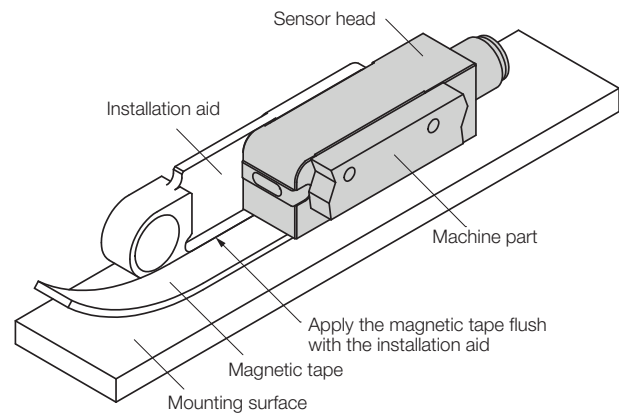

Fig. 4-2: Fastening installation aid BAM TO-ML-006-S1G (order code BAM0256) (left- or right-sided fastening is possible, figure shows right-sided fastening)
1. Fasten the installation aid (accessory) to the left or right side of the sensor head using screws (see Fig. 4-2).
7. Move the sensor head forward a bit while applying the magnetic tape flush with the installation aid (see Fig. 4-2).